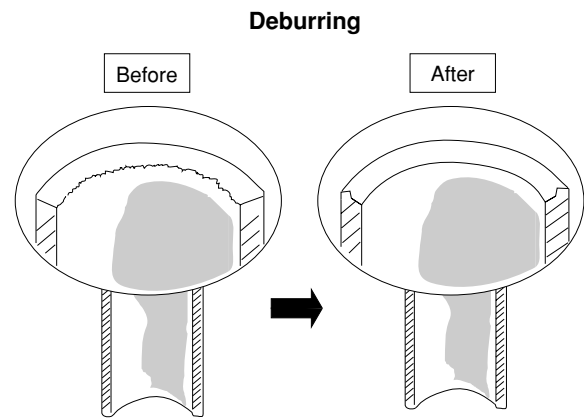

Fig. 4-1
- (1) Cut the copper tube to the required length with a tube cutter. It is recommended to cut approx. 30 – 50 cm longer than the tubing length you estimate.
- (2) Remove burrs at the end of the copper tube with a tube reamer or file. This process is important and should be done carefully to make a good flare. (Fig. 4-1)